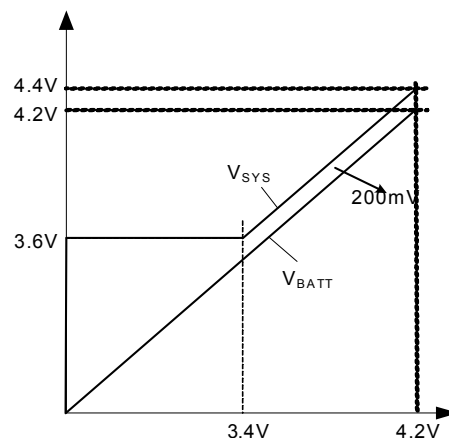

Figure 2 — MP 2617B SYS Regulation Output
- 2) If $BATT < 3.4V$, V_{SYS} is fixed at 3.6V to power the system immediately even when a drained battery is inserted to be charged. Figure 2 shows the relationship of V_{SYS} vs. V_{BATT} .
System voltage can also be regulated to any value between 3.6V to 4.4V in MP2617B (3.6V to 4.63V in MP2617A) by using a resistor divider on the SYSFB pin. This is shown as R6 and R7 in Figure 10. If the SYSFB is left floating, the system program is invalid, and V_{SYS} is regulated as Figure 2.